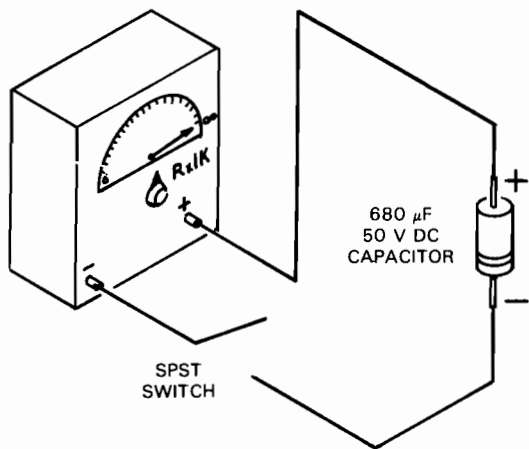

Fig. 10-1-1
3. Prepare VOM to measure resistance in 1 k (kilohm) range. Connect meter-capacitor test circuit as in Fig. 10-1-1.